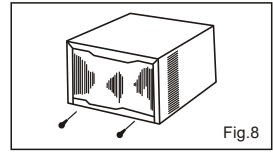

Fig.8
- 2) Remove the two screws on the back of the cabinet. (Fig.8)
- 7) Reinstall the front panel and mounting screws. (Fig.8,7,13)